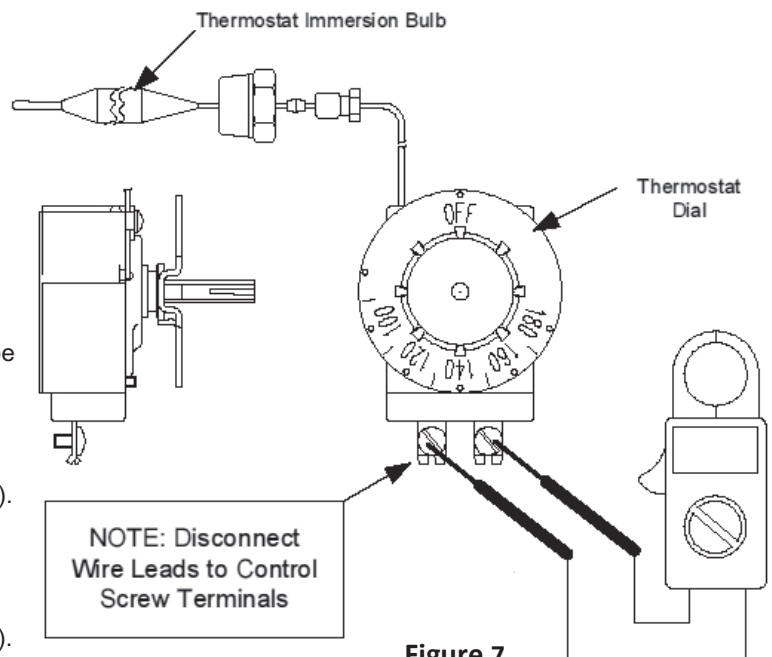

Figure 7
8. Check across screw terminals of control (see Figure 7).
10. Check across screw terminals of control (see Figure 7).